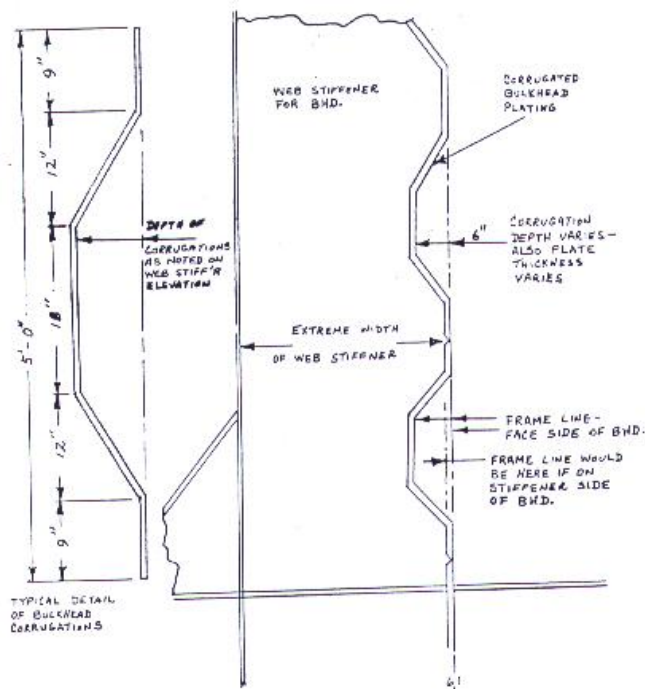

Fig 9 -- Frame Line Location at Corrugated Bulkheads
**CORRUGATED BULKHEADS** ----In setting the more recently adopted type of corrugated bulkheads, as in Fig. 9, the drawing must be consulted for location of frame line. Here the moulded line may be on either the face side or the stiffener side of the bulkhead, at the extreme width of the web bulkhead stiffeners. In this type of corrugated bulkhead, the depth of the corrugations varies at different heights on the bulkhead. The deeper corrugations at the bottom supply the increased bulkhead stiffness which is required owing to greater pressure of water (or other liquid) in the lower part of the tank.